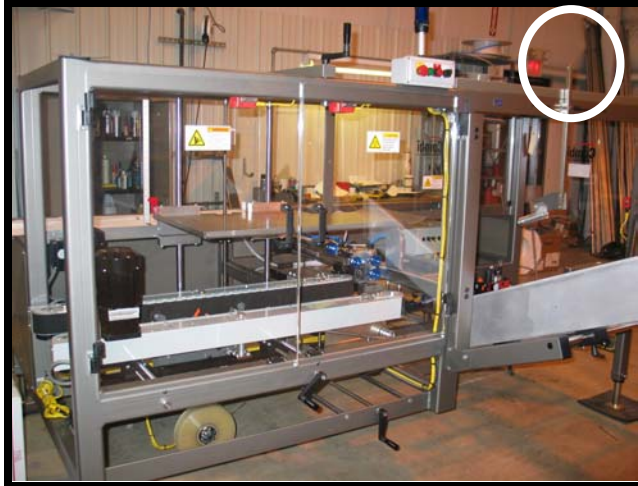

Figure 30. Hold Down Plate Adj Handle
2. Take the total height of the case with the bottom flaps closed and top flaps in the vertical position (up) and adjust the Top Hold Down Assembly to the proper height (See Crank Adjustment Handle at top of Case Erector in Figure 30.)